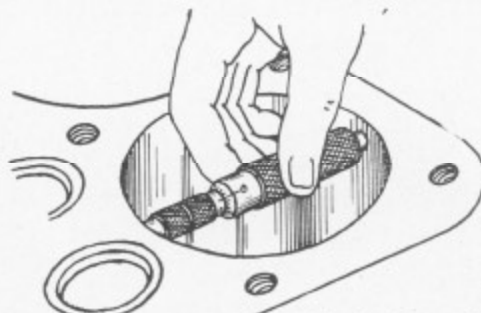

Fig. 54. Measuring Finished Cylinder Bore with Inside Micrometer
**Measuring Cylinder Bore With Inside Micrometers.**—To determine the correct diameter of the finished piston, measure the cylinder bore with an inside micrometer as shown in Figure 54. Transfer the size of the bore to an outside micrometer and subtract from that diameter the amount of clearance for each diameter of the lands and skirt of the piston as shown in the tabulation of the charts on pages 23 and 24.